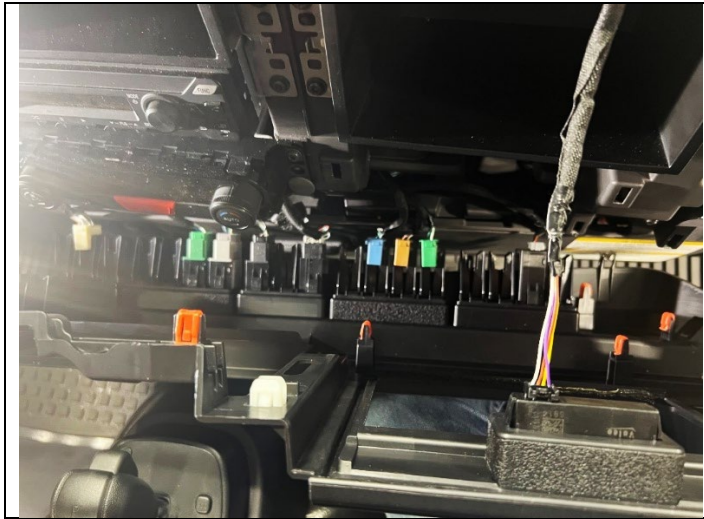

Figure 33
39. Hold the center cluster in place and connect all the connectors that were disconnected in Step 11. (See Figure 33.)